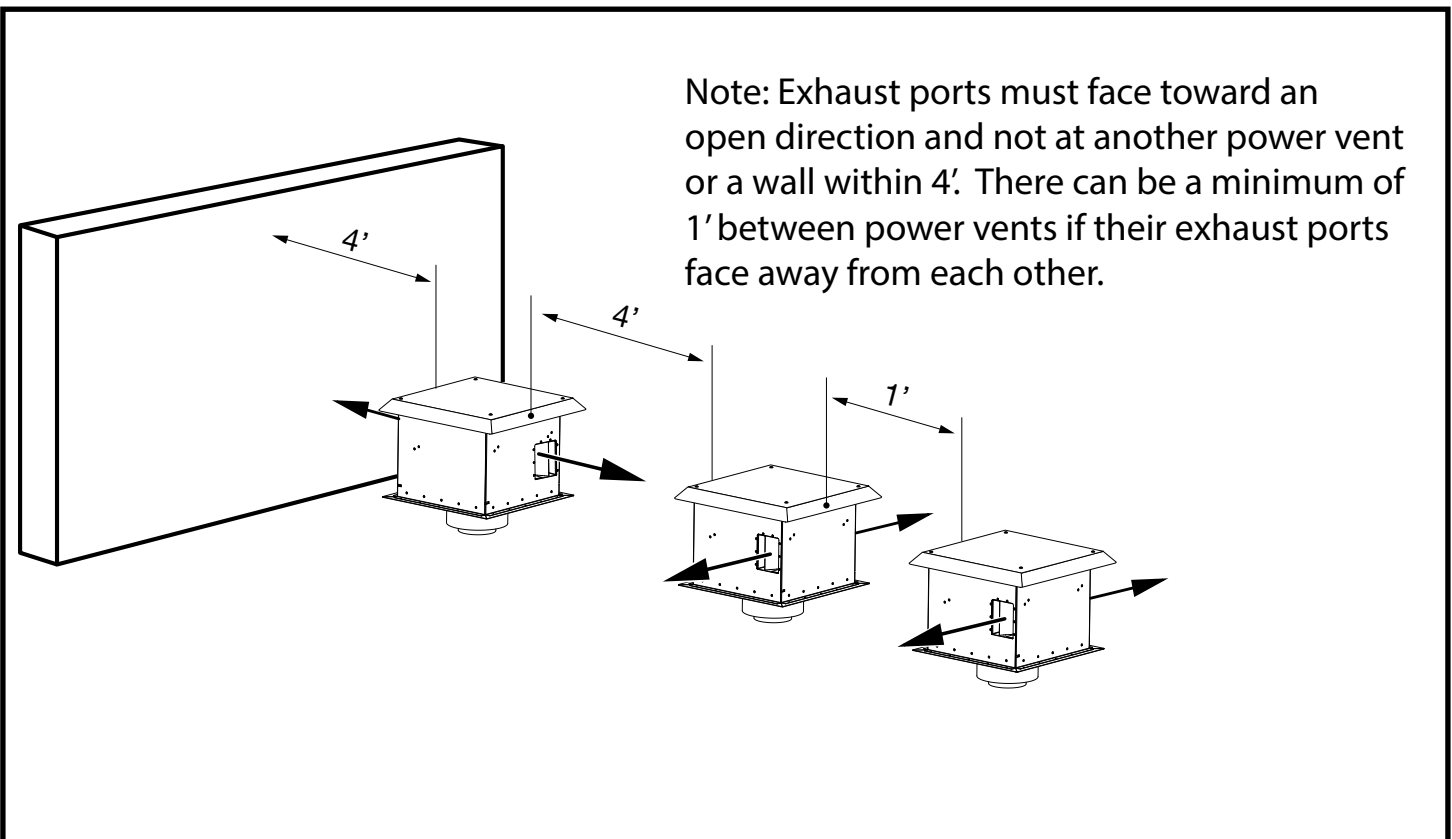

Figure 4: TCVT.PVVT Air exhaust clearances.
- Terminal casing: See Figure 4
Minimum clearances to the vent terminal must be maintained as shown in (Figure 4). Measure clearances to the nearest edge of termination hood.
3. Locate the power vent termination following the clearance to combustible table, (See “Minimum clearances to combustibles Table” on page 7), venting configuration diagram and terminal location diagram (Figure 4 on page 7).